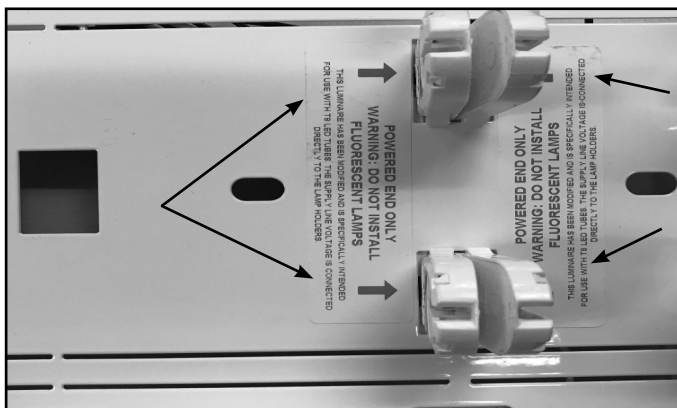

Figure 7: Place, rotate, and "fully" seat the Type "B" Single-End Powered T8 LED Tubes into the lamp holders.
- Re-lamp and orient the powered-end of the Type "B" T8 LED Tube into the lamp holder as shown in Figure 7. Take extra care to ensure the lamps have been rotated and "fully" seated into the lamp holder. Restore the power.